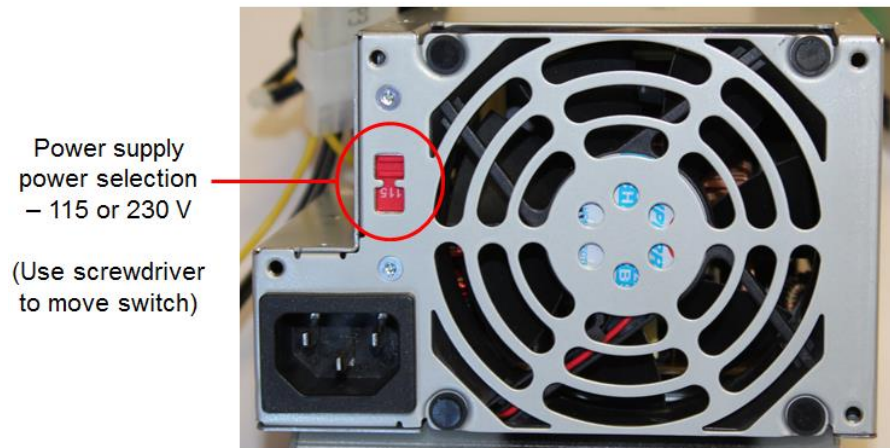

Figure 3: Power supply setting switch; use the small screwdriver supplied with the Demo Kit to change the switch setting
1. On the back of the power supply there is a red switch for selecting 115 V or 230 V input power, as shown in Figure 3.
- Power supply red power selection button has the correct power setting (see Figure 3)